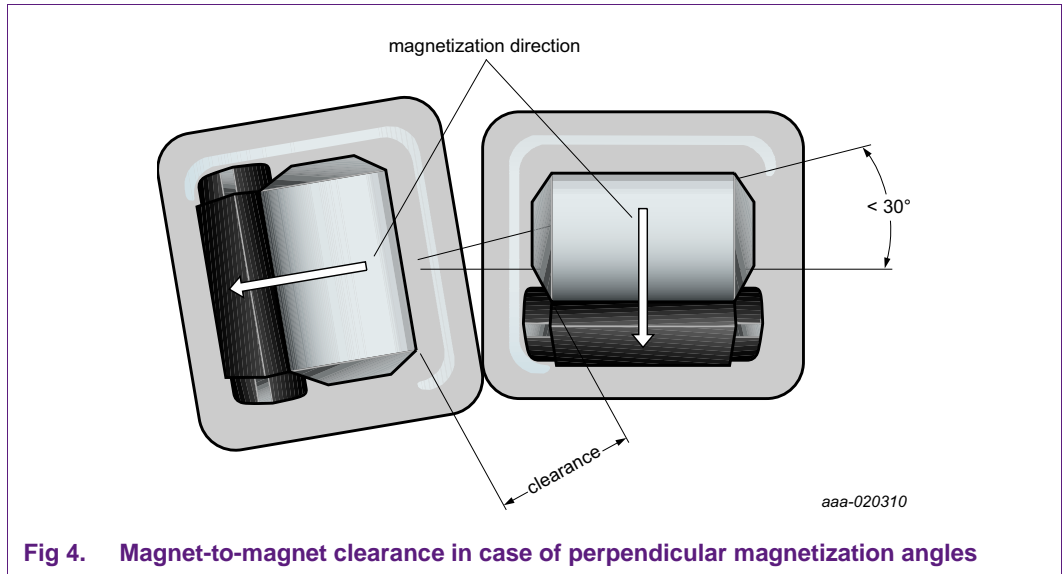

Fig 4. Magnet-to-magnet clearance in case of perpendicular magnetization angles
- Minimum clearance of 2 mm in case the magnetization of the neighboring devices are perpendicular within  $\pm 30^\circ$  to each other; see Figure 4